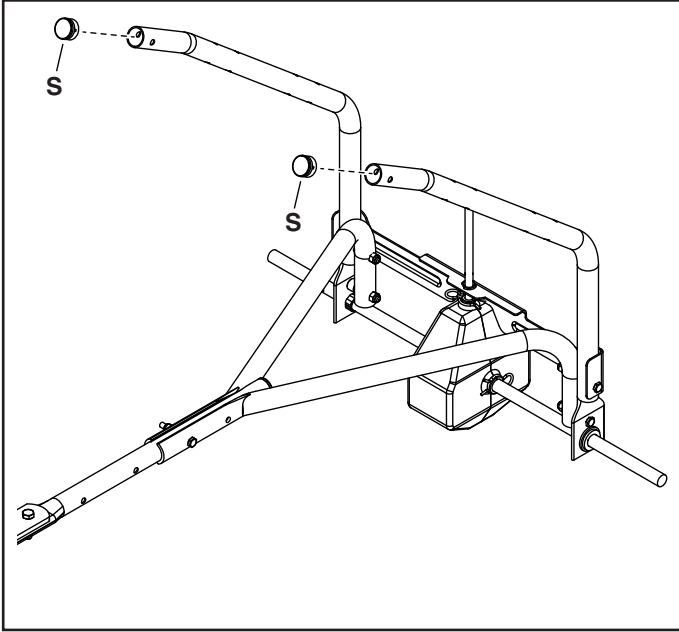

FIGURE 5
STEP 5: (SEE FIGURE 5)
- Insert plugs (S) into the ends of the hopper support tubes (5) and (6).